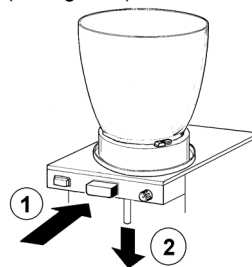

figure 1
- 3** Push (1) the dispensing button and remove (2) the pinch tube from its seat by taking it out downward (see figure 1).